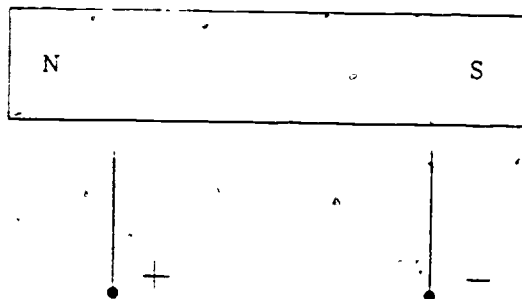

Figure 9. Determining Polarity
11. Figure 9 shows a coil winding that will produce the magnetic polarity in the core.